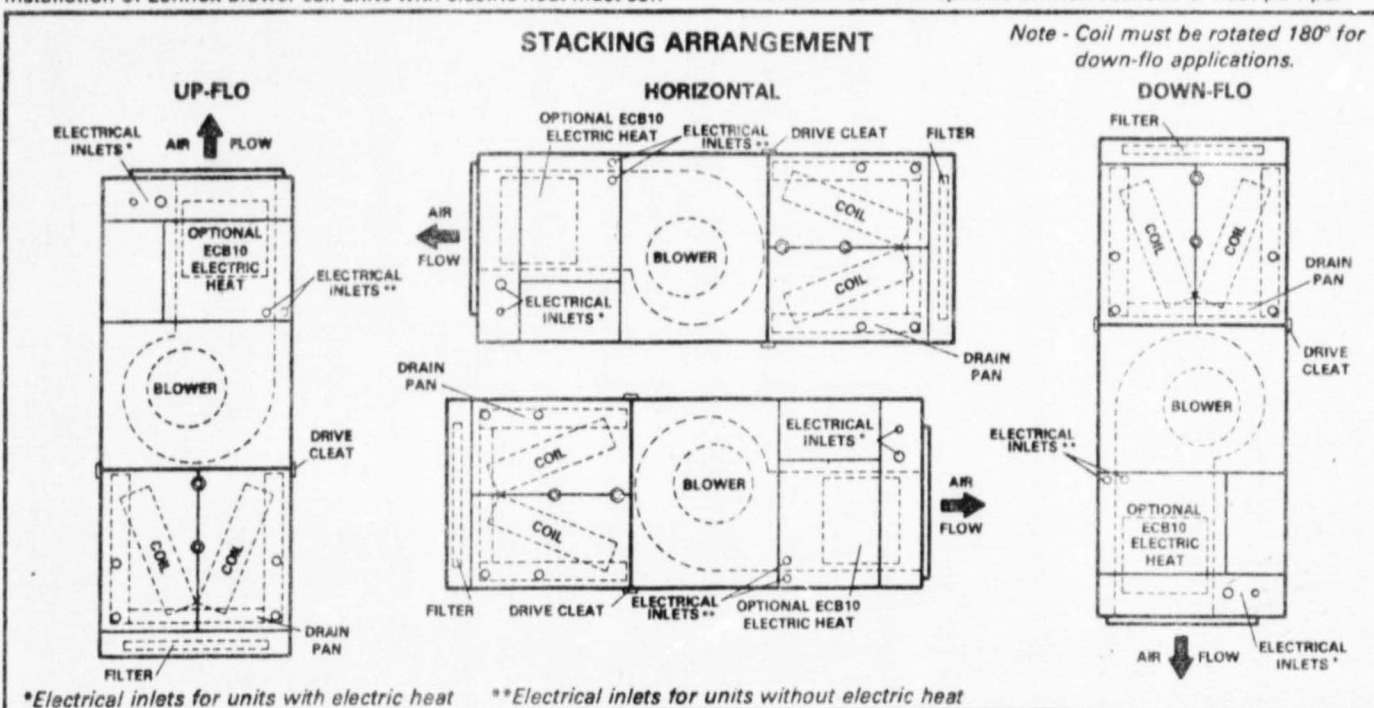

FIGURE 1
These units are designed for indoor installations only. CBP10 units are designed for installation with matching HP10 heat pump units. Units may be installed for up-flo, down-flo or horizontal air discharge. Refer to Figure 1 for stacking arrangement. Units are intended for use with specific Lennox sections of heat pumps.
See Figure 1 for stacking arrangements for up-flo, down-flo and horizontal air discharge. **NOTE** - For some applications blower motor must be rotated so oilers are positioned up.
- 4 - Remove (2) front access panels from coil cabinet and slide coil/drain pan assembly from cabinet. Rotate cabinet 180° and slide coil/drain pan assembly back into cabinet. Refer to Figure 1 for position of coil in down-flow applications.